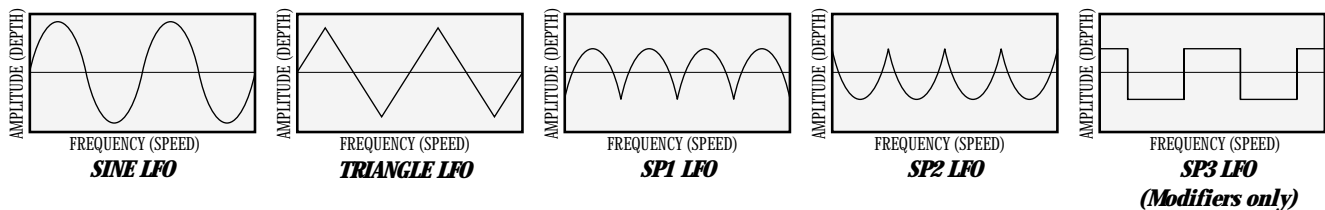

Figure 4-2 LFO Types
**LFO Waveforms:** There are four LFO waveforms available for Choruses, Flangers, Phasers, Tremolos, Auto Panners. They include SINE, TRiangle, SPecial-1, SPecial-2, and SPecial-3. See figure 4-2 for examples of what these waveforms look like.
(Special 2). The sine wave setting is probably the most easily recognized, but the smooth response of the triangle wave or the intensity of SP1 or SP2 typically produce better results. See figure 4-2.
WvFrm	Selects which waveform the LFO follows. Options for this control include sine, triangle, SP1 (Special 1), and SP2 (Special 2). The sine wave setting is probably the most easily recognized, but the smooth response of the triangle wave or the intensity of SP1 or SP2 typically produce better results. See figure 4-2.
WvFrm	Selects which waveform the LFO follows. Options for this control include sine, triangle, SP1 (Special 1), and SP2 (Special 2). The sine wave setting is probably the most easily recognized, but the smooth response of the triangle wave or the intensity of SP1 or SP2 typically produce better results. See figure 4-2 on page 41.